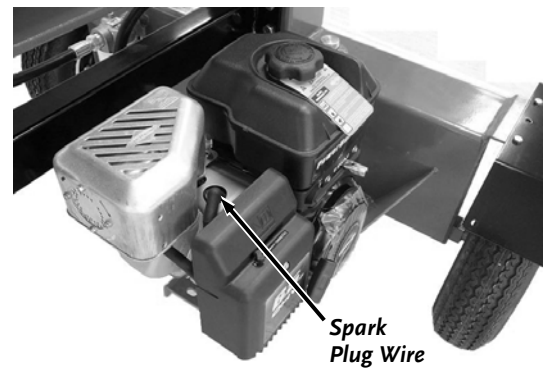

Figure 25
- Pull the spark plug wire off the spark plug (**Figure 25**). This prevents the engine from starting until the hydraulic pump and cylinder are completely filled with fluid. Make sure the spark plug wire is held away from the spark plug with string or other nonconductive material.